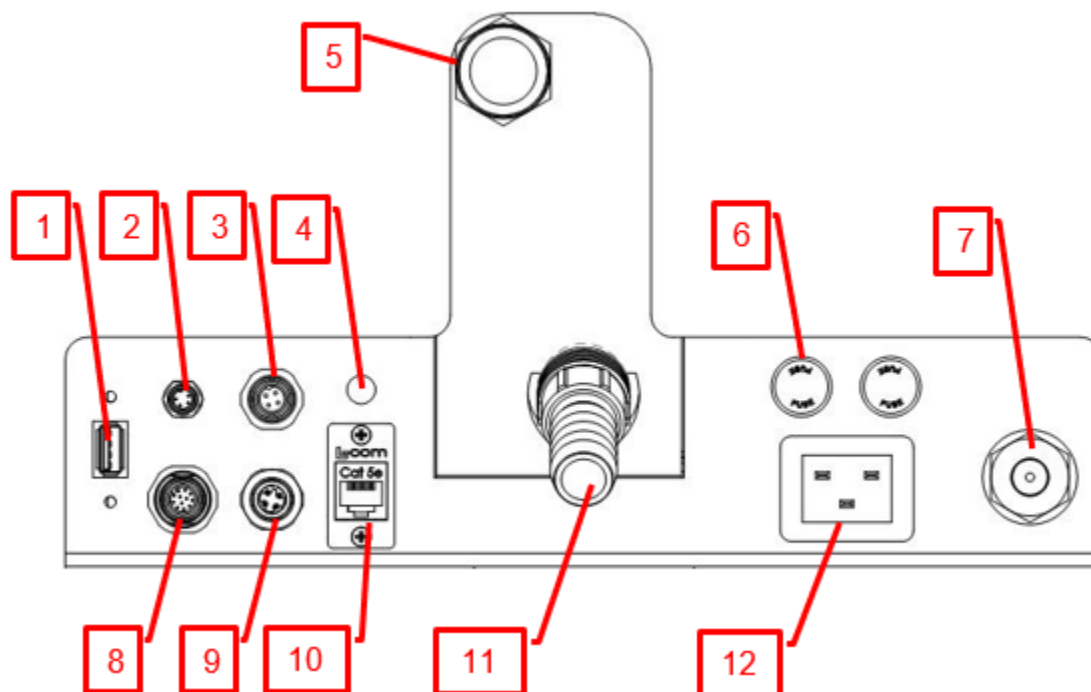

Figure 4: Cee® Apogee® Spin Coater Facilities Connections
3. Connect utilities per the reference diagram in **Figure 4: Cee® Apogee® Spin Coater Facilities Connections**